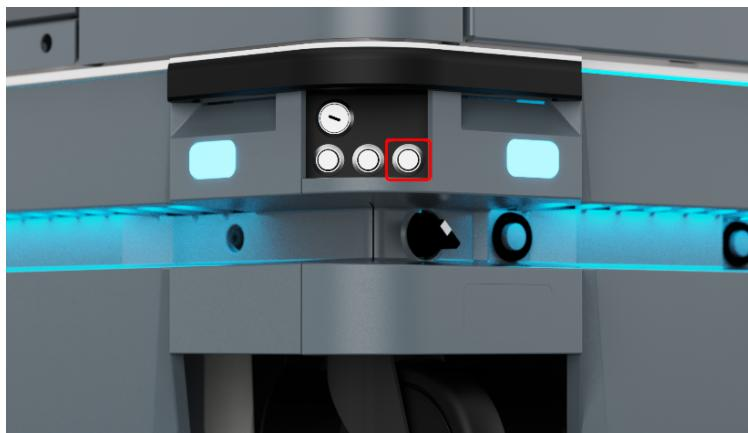

Fig. 4.1: MiR power button is located at the far right
2. Power on the MiR by pushing the power button for three seconds. The power button is located as the rightmost button in the left rear corner of the MiR see, Fig. 4.1.